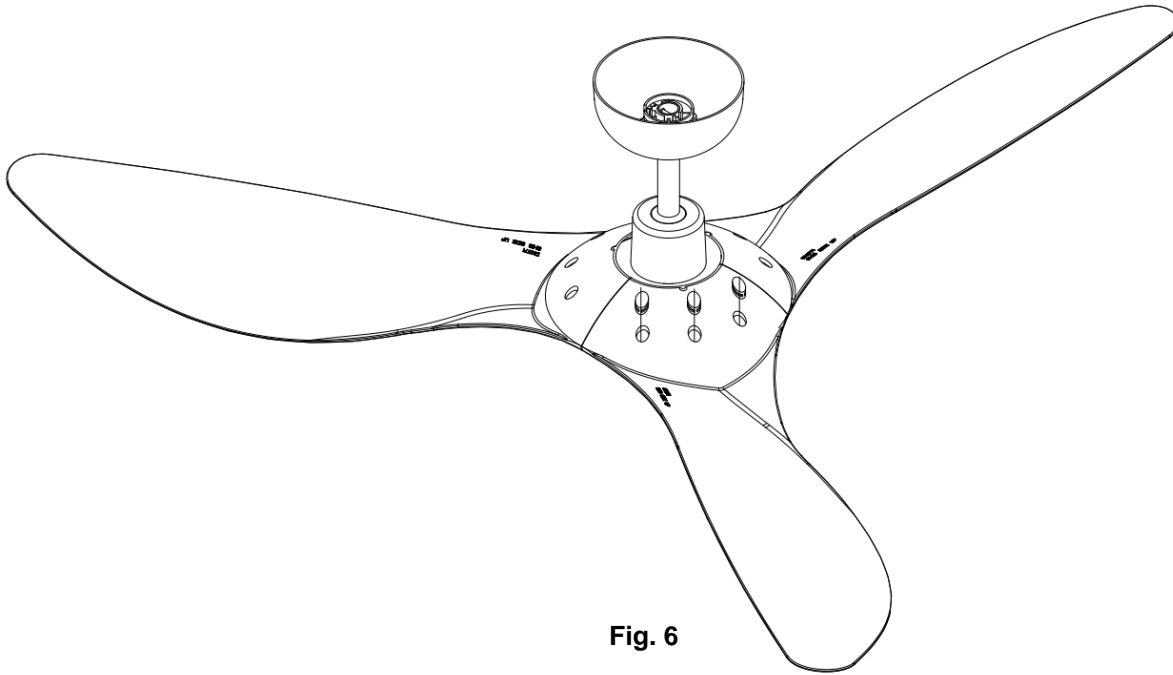

Fig. 6
- Install the decorative chips into the blade screw holes. (Fig.6)